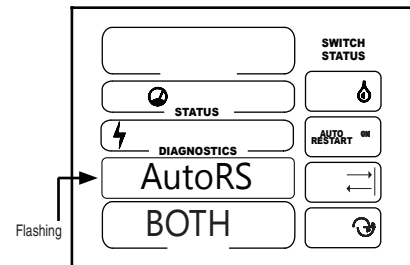

Figure 34-1
1. AutoRS should be flashing. See figures 34-1, 34-2 and 34-3.
When auto restart both is selected and the machine shuts down due to a loss of pressure or a loss of power. See figure 34-1.